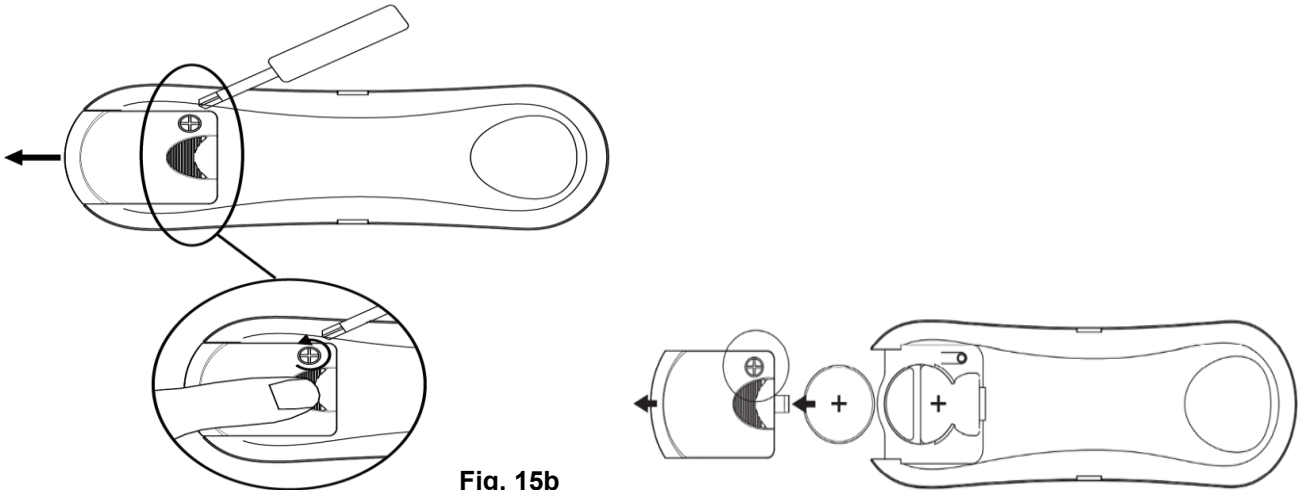

Fig. 15b
2. Slide to remove the battery compartment cover from the back of the remote, to access the battery (Fig. 15b)